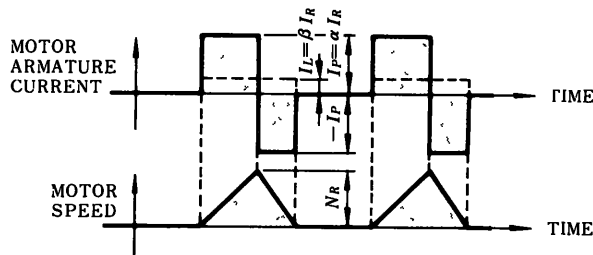

Fig 3.4 Timing Chart of Motor Armature Current and Speed
3.4.2 When the Motor remains at Standstill between Cycles of Acceleration and Deceleration without Continuous Rated Speed Running (Fig. 3.4)
The timing chart of the motor armature current and speed is as shown in Fig. 3.4. The allowable frequency of operation "n" can be calculated as follows: